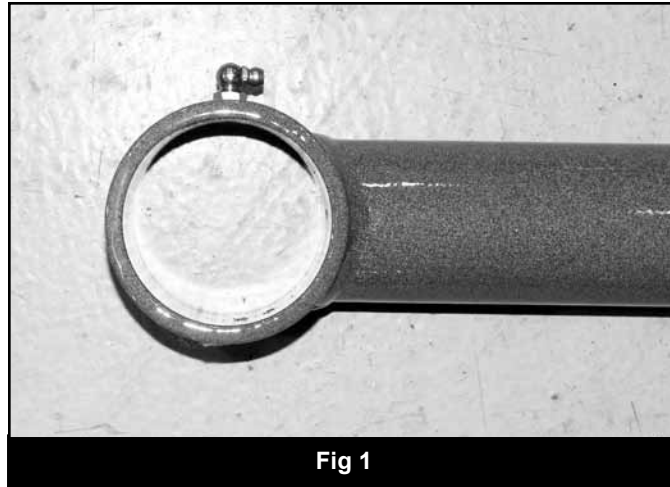

Fig 1
9. Install the provided 90° grease fittings in the threaded holes at the bushing end of the control arms. When installed the fittings should point toward the body of the control arm. (Fig. 1)